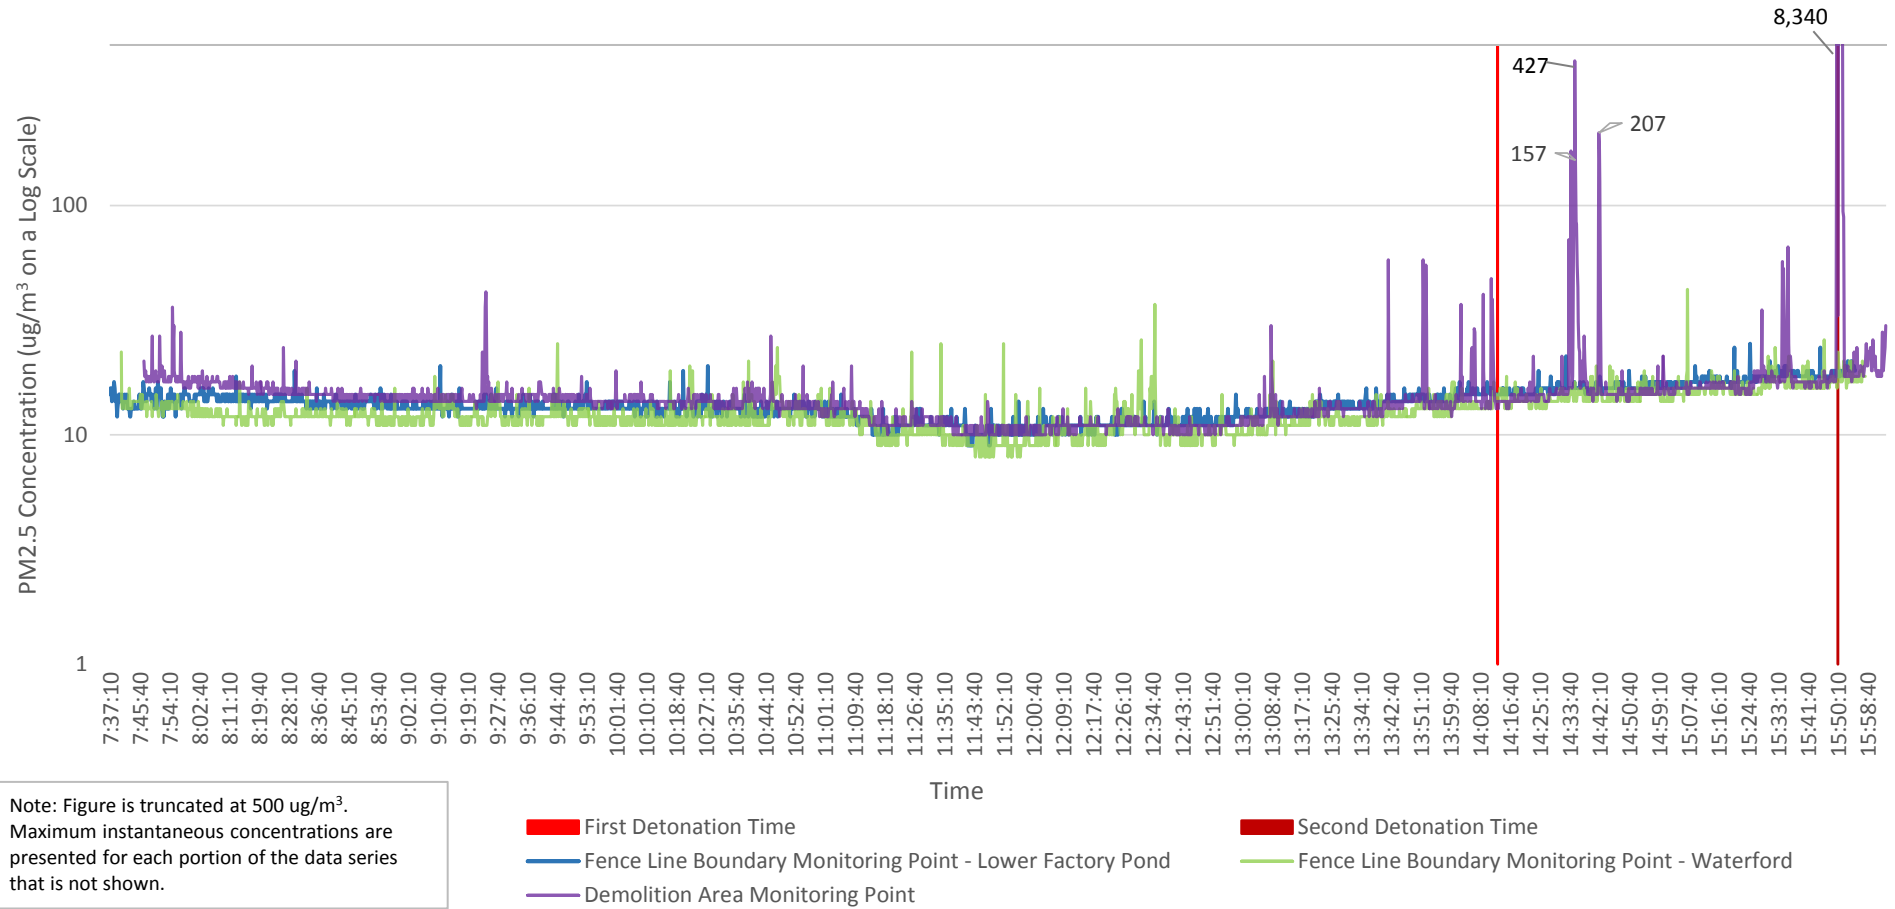

Figure 3-19. Time Series for PM10 Concentrations on 8/9/17
- Figure 3-19. Time Series for PM10 Concentrations on 8/9/17